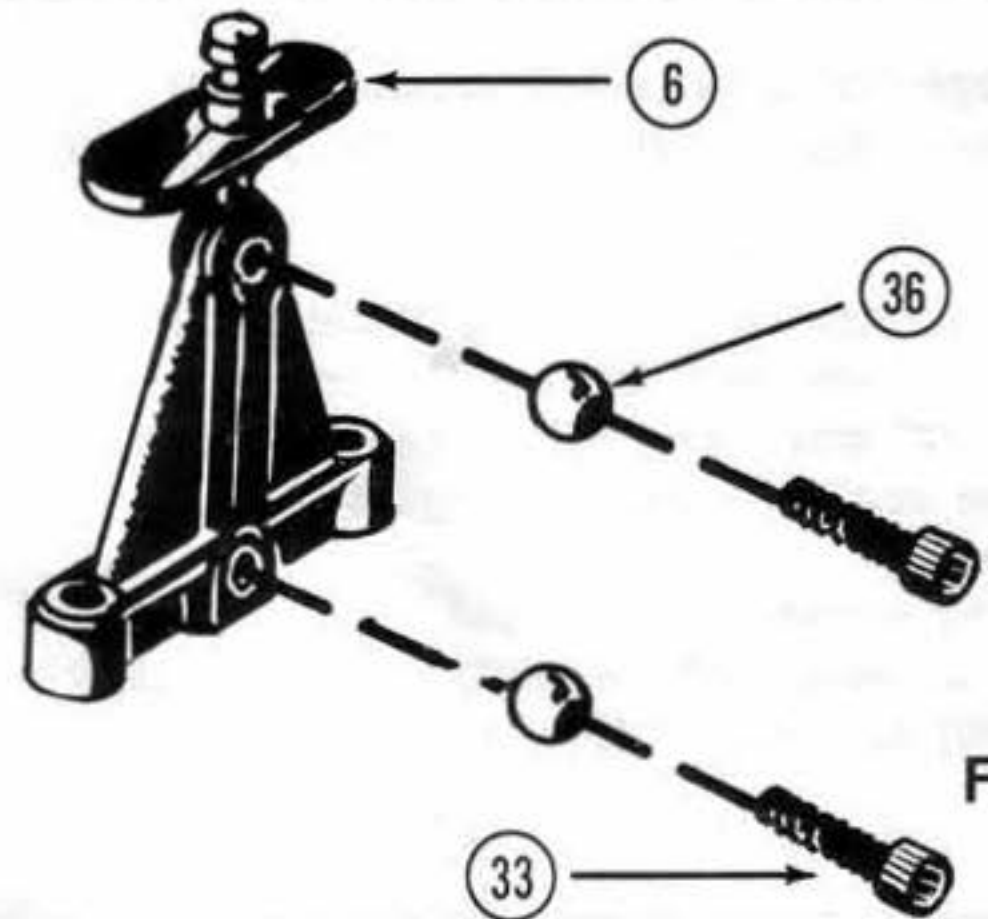

FIG.17
3. Slide on one 1/4" ball (36) over one 4-40 X 1/2" socket head screw (33). This will create one composite ball joint. Fig.17
5. Thread one composite ball joint into top hole in side bulkhead (6) so that the ball is on the outside and it can just spin freely. Fig.17
6. Repeat step 6 using the bottom hole in side bulkhead (6) as shown. Fig.17